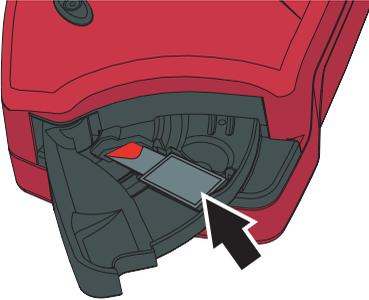

FIGURE 3-11
k) Place the filled Cuvette in the Cuvette holder, see *FIGURE 3-11*.
e) Perform the measurement as described in *FIGURE 3-11*, and *FIGURE 3-13* in section 3.1 *Capillary blood*.